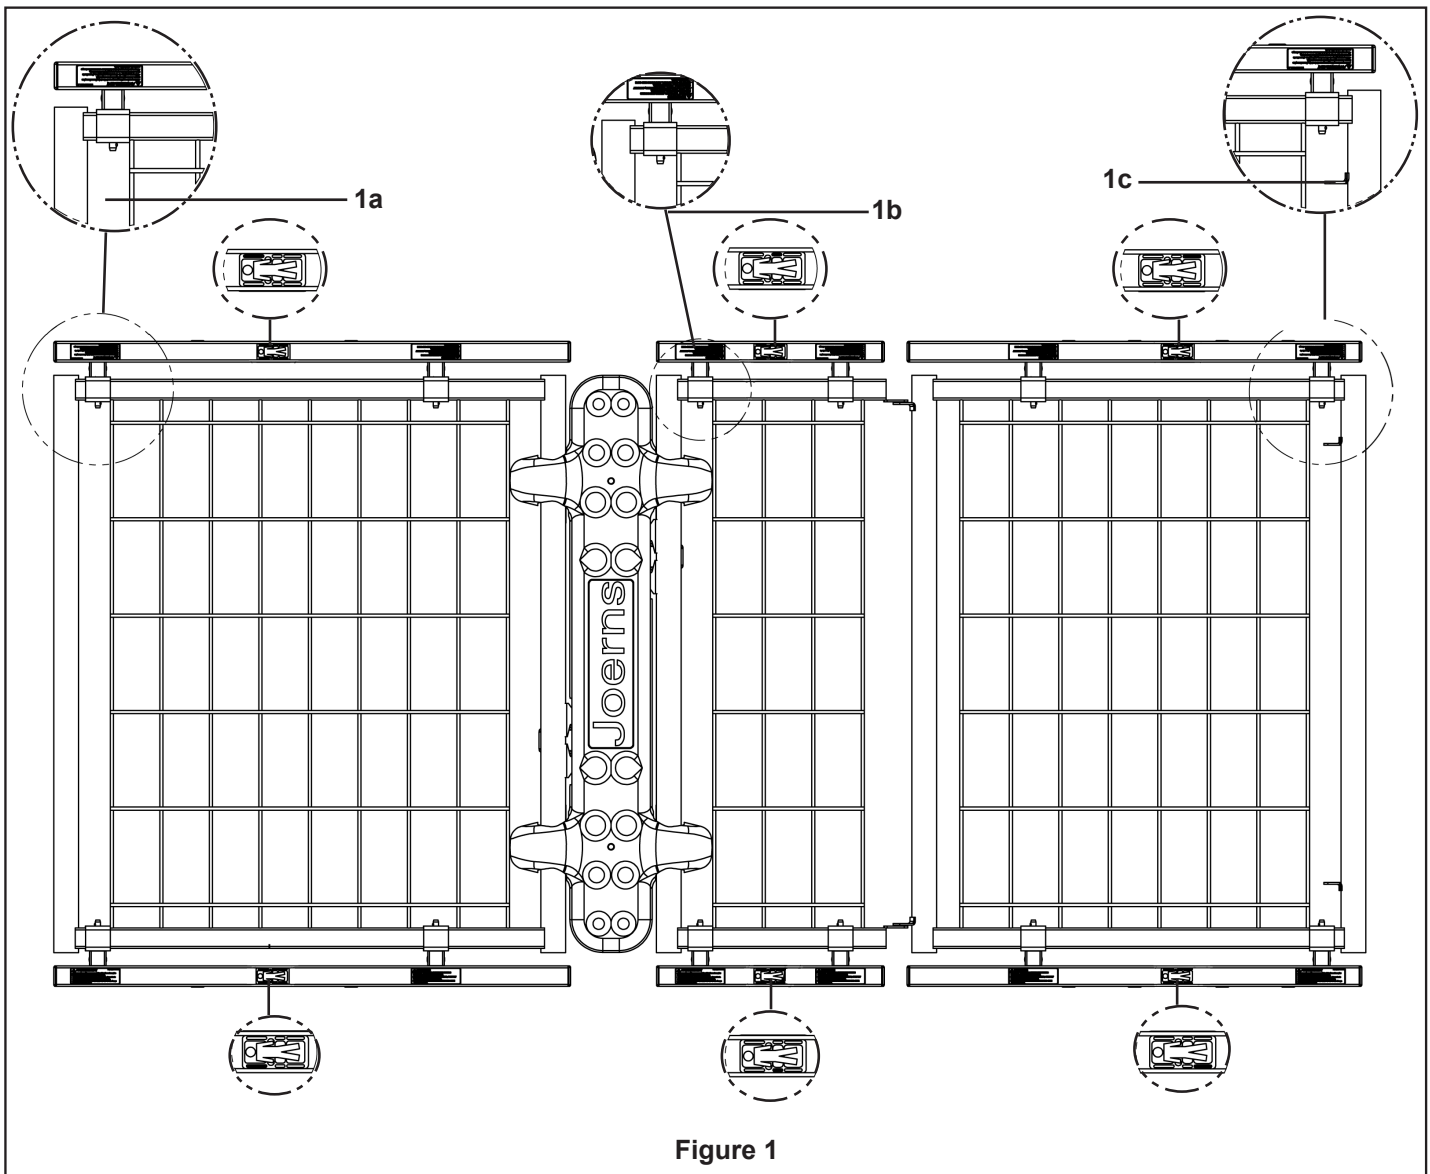

Figure 1
2. Reference the location labels attached to the top of each extension. The labels identify the attachment location for each extension (Figure 1). **Note:** Figure 1 depicts 39" extensions. Labels are the same as used for the 42" extensions.